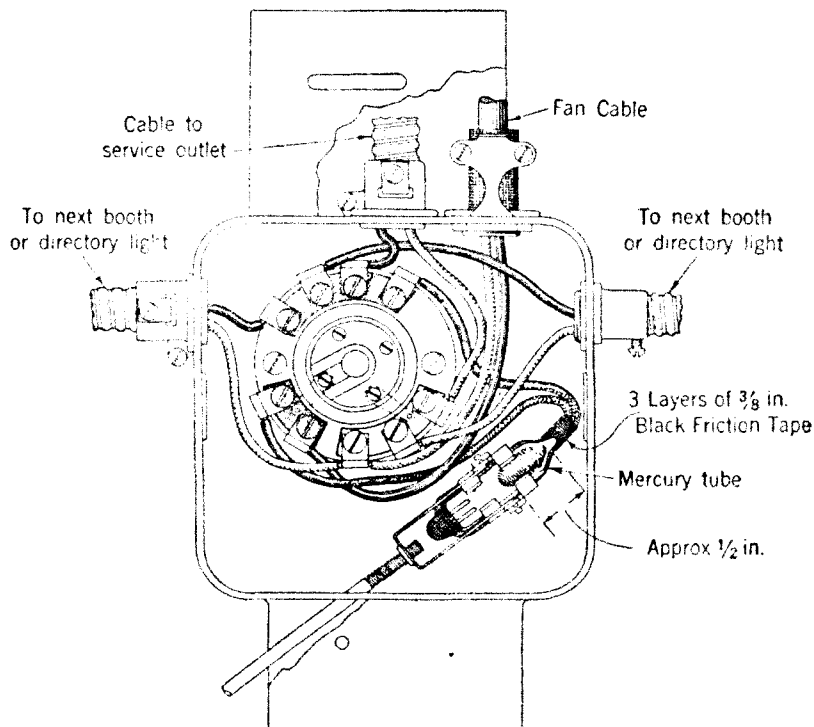

Fig. 8—3A Fixture Viewed From Within the Booth
7.01 **At the 3-type light fixture** make cable connections as shown in Fig. 8. Each cable shown is to be provided and connected only when required. When 3-wire cable P-370288 is used, its ground conductor (green) is automatically grounded to the fixture through its box connector.
8.05 Make connections to the booth lamp receptacle as shown in Fig. 8 or 9.
11.11 A KS-8164 ventilator can be readily installed by passing a strong cord or wire downward through the 1-inch hole, tying it to the end of the fan cable and then pulling the cord or wire while lifting the ventilator upward into place. Put washers, nut, and bushing on cord or wire in proper sequence and tie to door handle. Replace washers and nut on pipe stem projecting through ceiling, leaving hand tight while checking from within the booth that the ventilator is in proper position in relation to both walls of the booth. Tighten nut and bushing, remove cord or wire, and fasten cable and connector at light fixture as shown in Fig. 8.